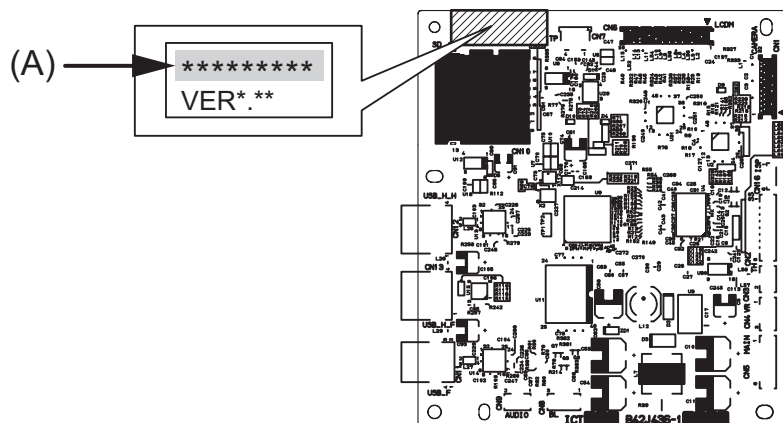

**Fig. 1**
When the main PCB assy or panel PCB assy has been replaced, the setting data stored in the sewing machine is automatically copied to the new PCB. However, the screen shown in Fig. 1 may appear depending on the new PCB. In that event, follow the steps below to complete copying correctly.
1. Select "Main PC Board" ① when the main PCB assy was replaced, or select "Panel PC Board" ② when the panel PCB assy was replaced. (Fig. 1)